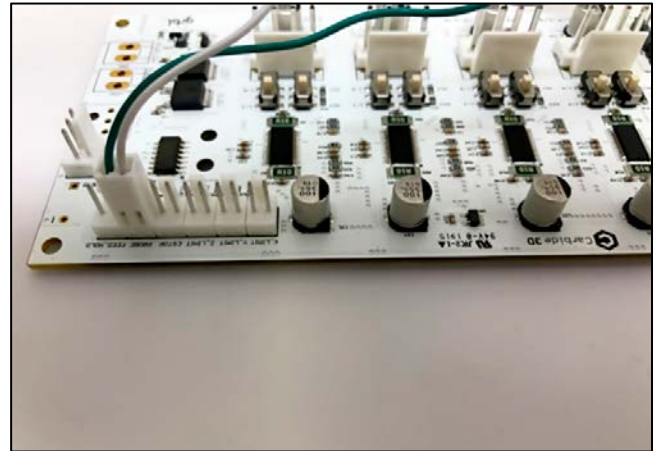

Figure 11
1. Connect the 2-pin connector (green and white wires) of the legacy adapter cable to the pins labeled *Probe* in the top-right corner of the Carbide Motion board. See **Fig. 11**.